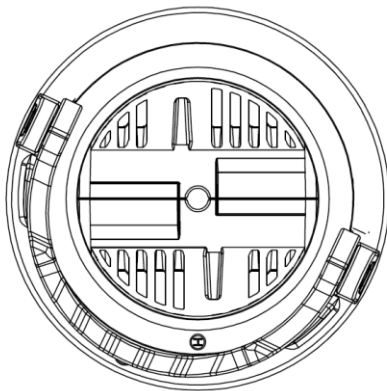
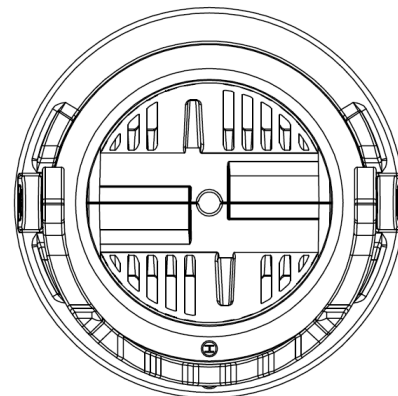

Fig. 9A: Basket ring in "locked" position (top view)
Fig. 9B: Basket ring rotated 25° CCW to "unlocked" position (top view)
2.5.1.7.1 Rotate basket ring counter-clockwise (as viewed from top of basket) approximately 25° to allow slots in basket ring to align with runner ribs on basket. (Note: Alignment slots of basket ring not visible from top of ring.) (See fig. 9A and fig. 9B.) **[NOTE: Basket ring will first encounter "soft" stops used to lock basket ring in place, basket ring will then encounter "hard" stops. Do not force basket ring to rotate past "hard" stops.]**